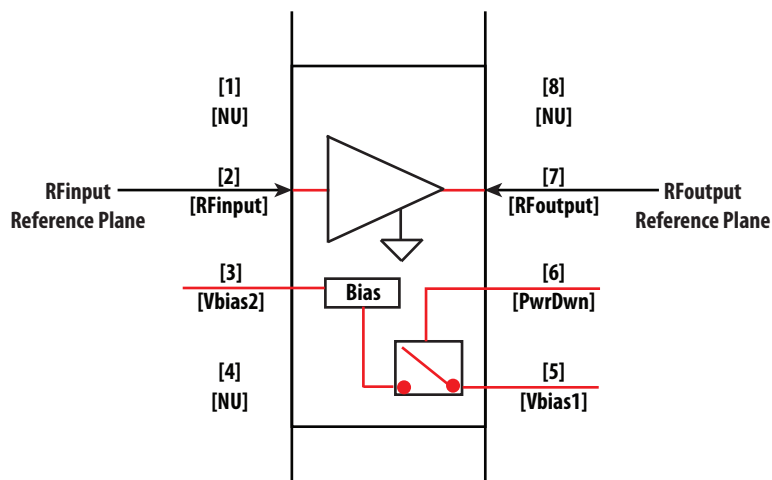

Figure 25. RFinput and RFoutput Reference Plane
2. Scattering and noise parameters are measured on coplanar waveguide made on 0.010 inch thick ROGER 4350. The input reference plane is at the end of the RFin_{input} pin and the output reference plane is at the end of the RFin_{output} pin as shown in Figure 25.